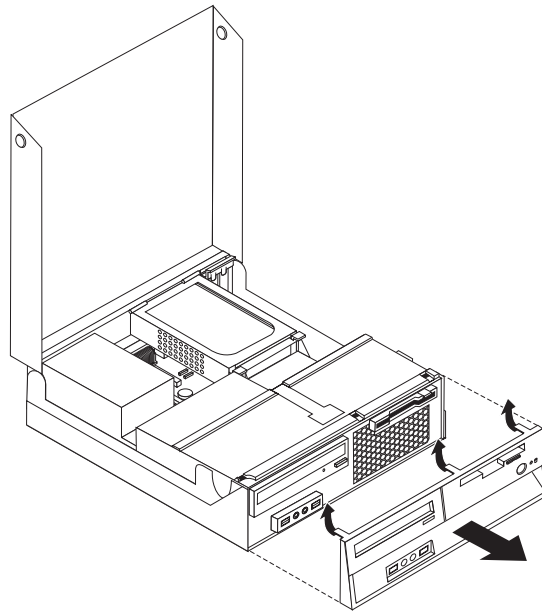

Figure 12. Removing the front bezel
2. Remove the front bezel by releasing the three tabs as shown and pivoting the bezel outward from the top. See Figure 12.